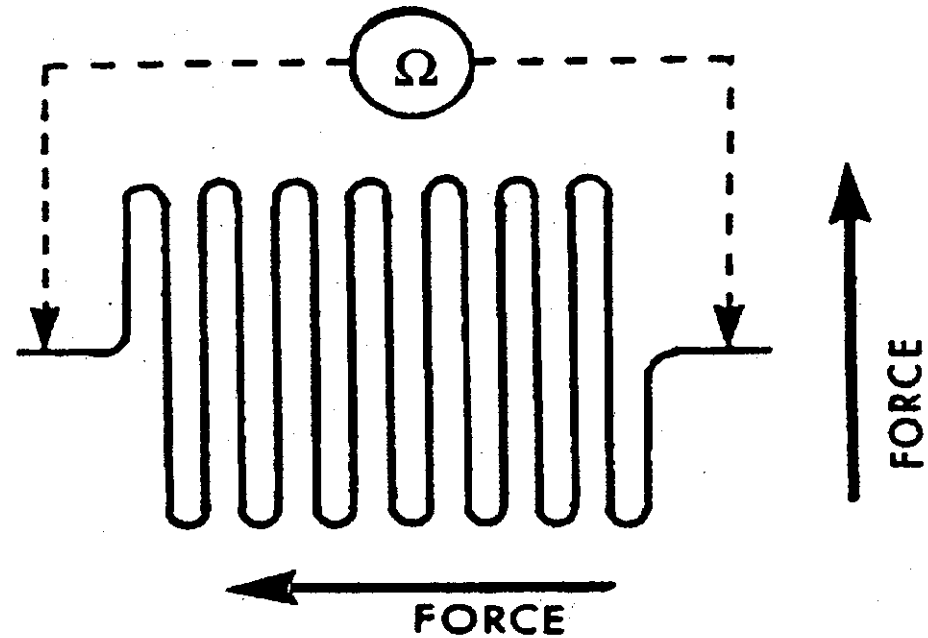

Figure 5: A Metallic Conductor Bonded Strain Gauge Device.
- One form of the strain gauge is a metal wire of very small diameter laid in a multi-looped configuration as shown in Figure 5.
- When force is applied as indicated in Figure 5, the overall length of the wire tends to increase while the cross-sectional area decreases.